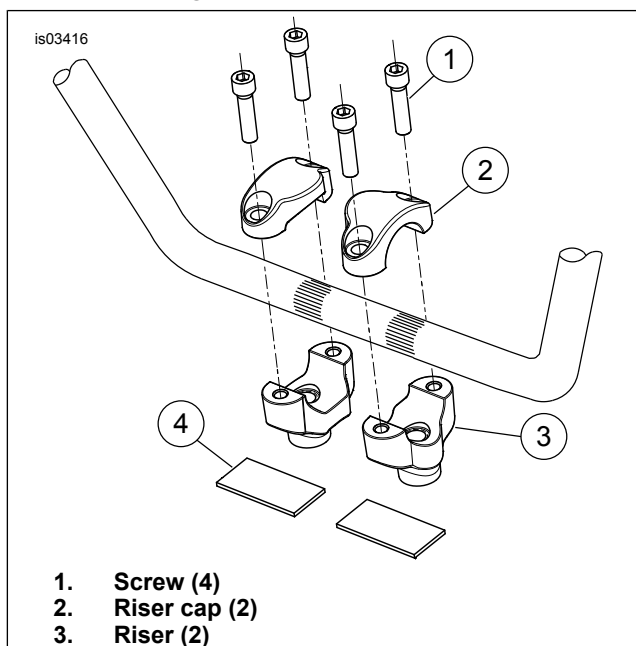

Figure 3. Riser Orientation - FLSTF
- b. See Figure 3. Loosely install new risers (Kit No. 56789-05), oriented as shown, to the upper fork bracket using the original equipment (OE) screws, lockwashers and washers. Install ground cable and internal tooth lockwasher onto the right side riser screw.
- d. Install two riser caps (2) onto the risers over the handlebar using four screws (1) from the kit.